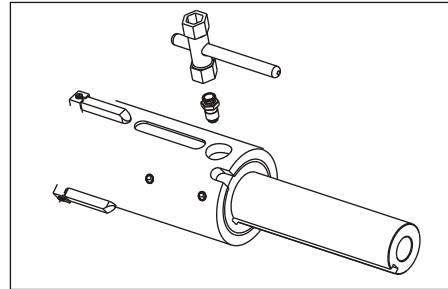

Figure 6: Loosen the Non Return Valve (NRV) With 12 X 13 or 19x22 Box Spanner and Tommy Bar
- 2 Remove the NRV (Air valve). If there is a 1/8" BSP Air Valve then use 12x13 box spanner; for 3/8" BSP use 19x22 box spanner. For applying extra force, you may use a Tommy bar. (Figure 6)